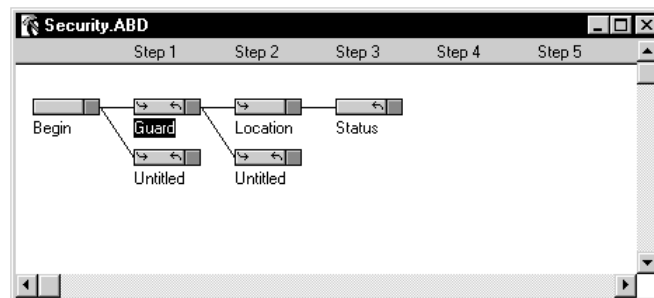

Figure 4-33 New Input Handler Added
7. A new untitled Input Handler is added to the “Guard” Handler (Figure 4-33).